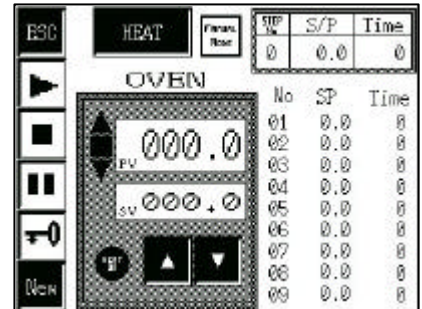

Fig.49
The screen shown in Fig.49 displays the control for the Oven temperature. The current temperature of the oven is displayed in the upper window (PV) in centigrade and the lower window displays the set value (SV) also in centigrade.